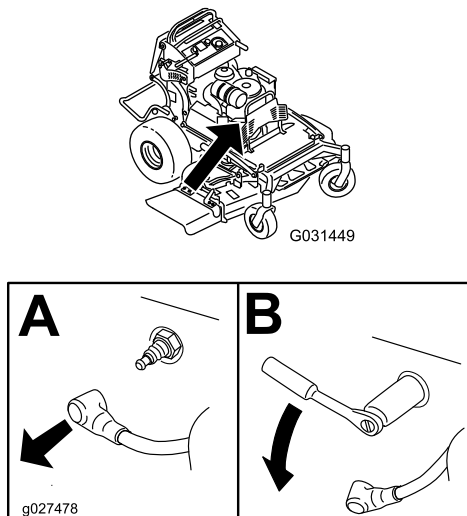

Figure 44
3. Remove the spark plug as shown in Figure 44.